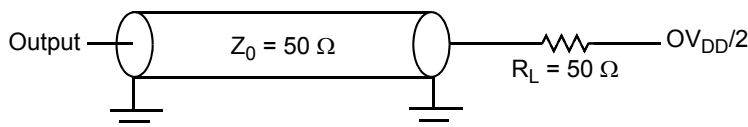

Figure 39. AC Test Load for the JTAG Interface
1. All outputs are measured from the midpoint voltage of the falling/rising edge of t_{TCLK} to the midpoint of the signal in question. The output timings are measured at the pins. All output timings assume a purely resistive 50-Ω load (see Figure 39). Time-of-flight delays must be added for trace lengths, vias, and connectors in the system.
2. The symbols used for timing specifications follow the pattern of $t_{(first\ two\ letters\ of\ functional\ block)(signal)(state)(reference)(state)}$ for inputs and $t_{(first\ two\ letters\ of\ functional\ block)(reference)(state)(signal)(state)}$ for outputs. For example, t_{JTDVXH} symbolizes JTAG device timing (JT) with respect to the time data input signals (D) reaching the valid state (V) relative to the t_{JTG} clock reference (K) going to the high (H) state or setup time. Also, t_{JTDVXH} symbolizes JTAG timing (JT) with respect to the time data input signals (D) went invalid (X) relative to the t_{JTG} clock reference (K) going to the high (H) state. Note that, in general, the clock reference symbol representation is based on three letters representing the clock of a particular functional. For rise and fall times, the latter convention is used with the appropriate letter: R (rise) or F (fall).